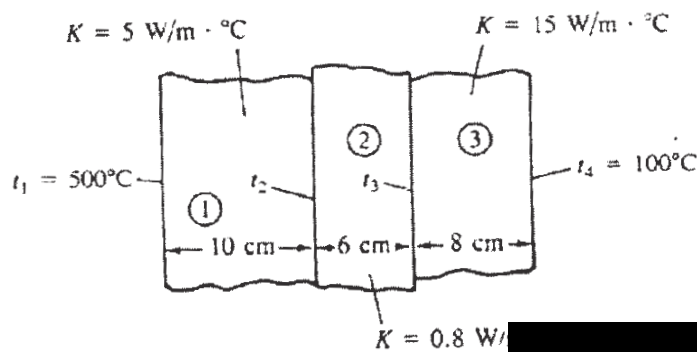

Fig. 8a
- Q8)** For the composite wall shown in fig.8a, determine the interface temperatures. What is the heat flux through 8 cm portion? Use the finite element method. Use three elements with the nodes shown. [16]